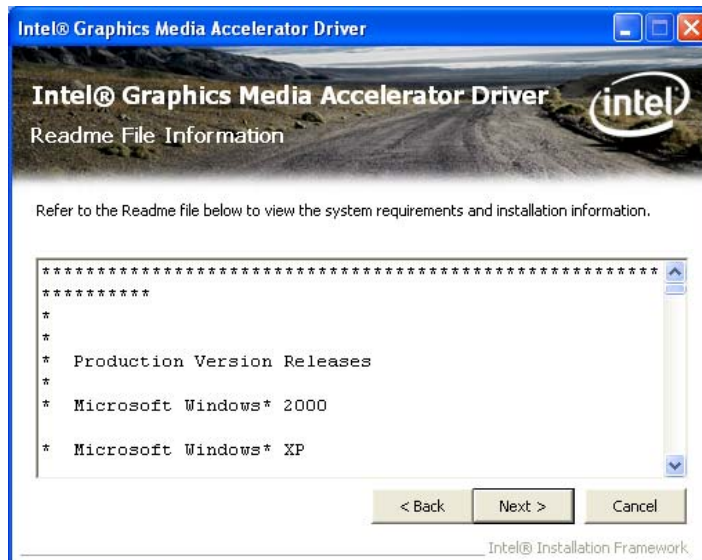

Figure 6-11: VGA Driver Read Me File
Step 11: The Read Me file in **Figure 6-11** appears.